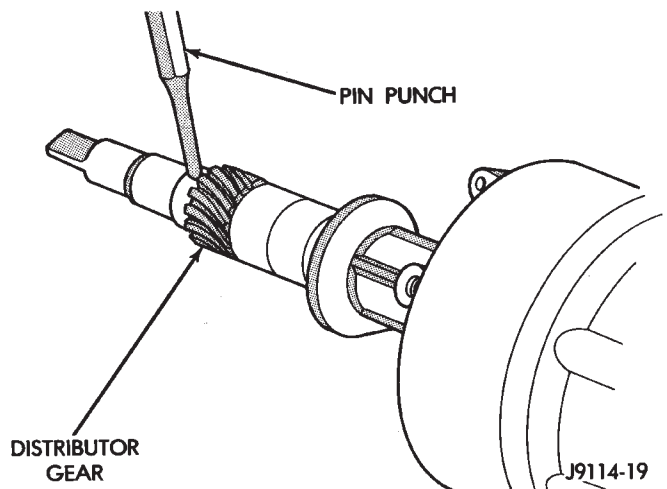

Fig. 2 Distributor Gear—Removal/Installation—4.0L Engine
- (3) Mark the position of the gear and the shaft in line with the roll pin. The gear **MUST** be installed back to its original position on the distributor shaft.
- (4) Using a small pin punch and hammer, remove the distributor gear roll (spring) pin (Fig. 2).